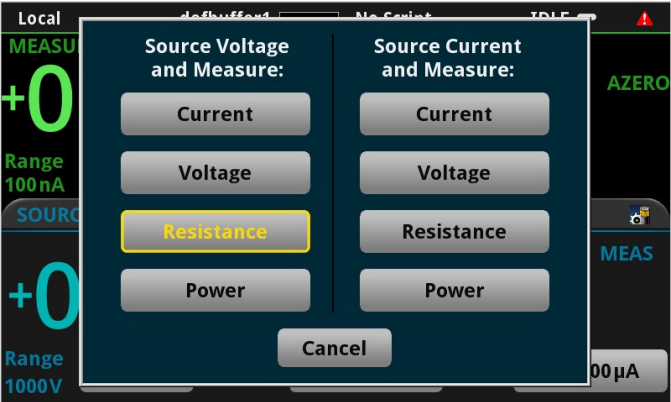

Figure 3: Menu to select Source Voltage and Measure Current.
2. Press the **FUNCTION** key and select **Source Voltage and Measure Resistance** (as shown in **Figure 3**). Choose the desired source voltage (e.g. 500 V) and a current source compliance value by using the front panel touchscreen buttons. Based on the test voltage and the expected value of the resistance to be measured, calculate the expected current value ( $I=V/R$ ) and set the source limit high enough that it will not impede the current flow. For example, if the expected resistance is